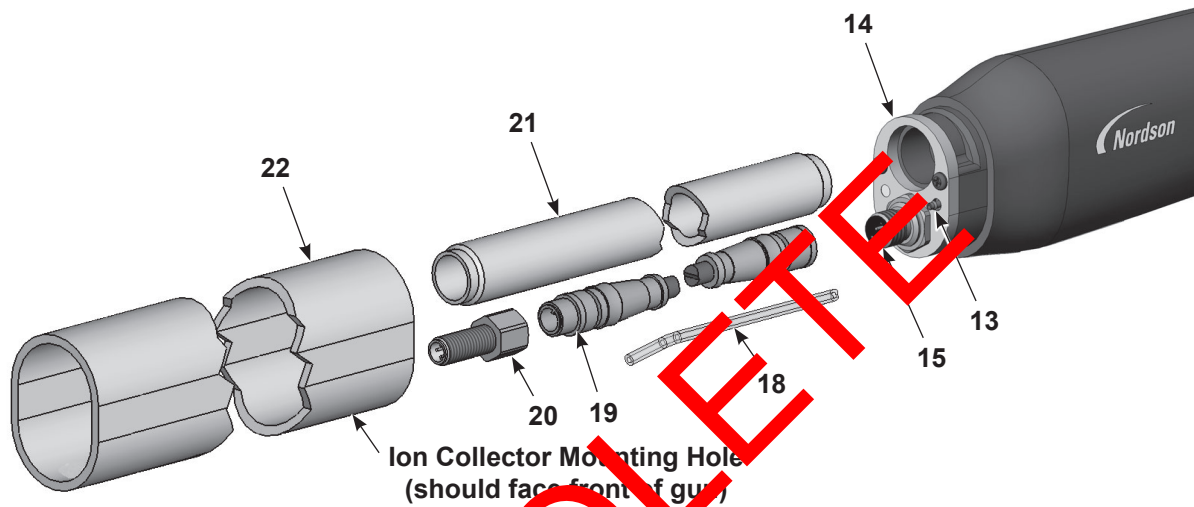
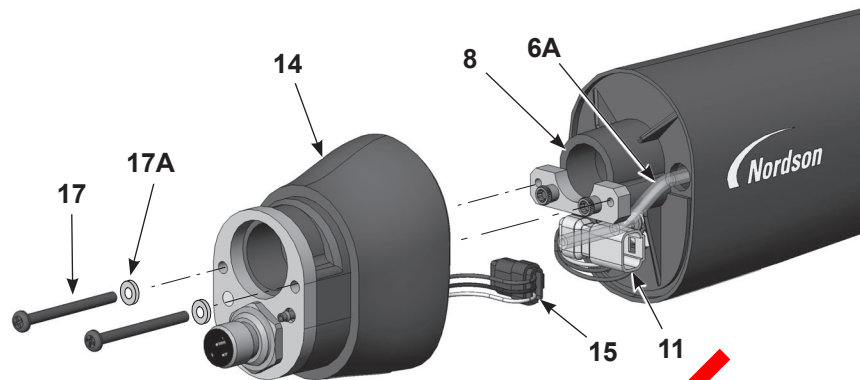
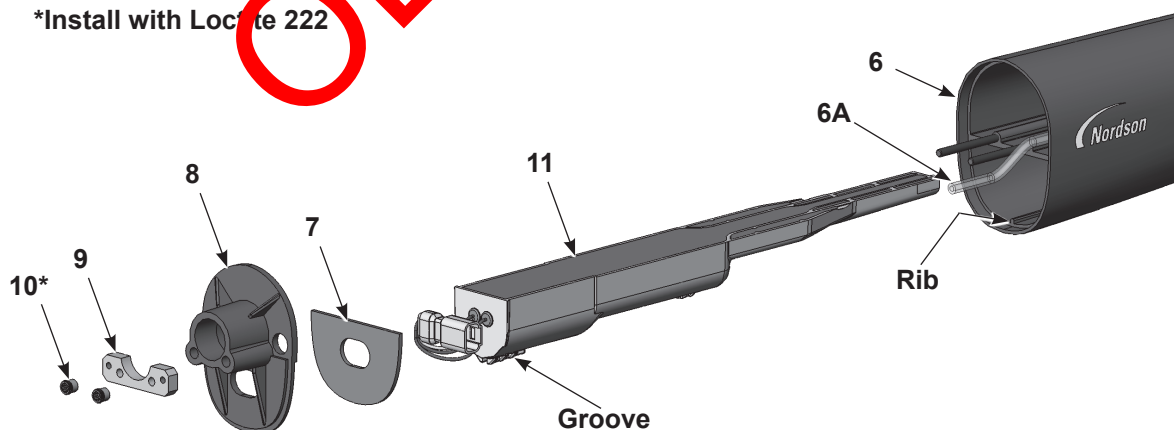

Figure 18 Tube-Mount Gun Disassembly 2 of 5
Figure 19 Tube-Mount Gun Disassembly 3 of 5
Figure 20 Tube-Mount Gun Disassembly 4 of 5
7. See Figure 18. Pull the mounting tube (22) off the rear body assembly (14) and over the clamping tube (21).
9. Disconnect the extension cable (19) from the receptacle harness (15).
10. Disconnect the clear 4-mm air tubing (18) from the barbed fitting (13).
11. If you are replacing the extension cable, remove the cable receptacle (20). If not, you can leave them connected.
12. See Figure 19. Remove the two socket-head screws (17) and lock washers (17A) from the rear gun body (14).
13. Carefully pull the rear gun body far enough off the bulkhead (8) to disconnect the power supply harness (11) from the receptacle harness (15), and the filter assembly tubing (6A) from the barbed fitting inside the rear body.
14. See Figure 20. With a 1/8-in. hex key, remove the two Allen nuts (10) and screw plate (9) from the bulkhead (8). Then remove the bulkhead from the gun body (6), feeding the power supply harness through the bulkhead.
15. Slide the power supply (11) out of the gun body.
17. The gasket (7) is attached to the bulkhead with a pressure-sensitive adhesive. If the gasket is damaged, replace it with a new one.
1. See Figure 20. Install the power supply (11) into the gun body (6), making sure the gun body rib fits into the groove on the power supply. Seat the power supply firmly into the gun body.
2. Feed the power supply harness through the bulkhead (8), then install the bulkhead and screw plate (9) over the gun body studs. Apply Loctite 222 thread-locking adhesive to the Allen nuts (10) and thread them onto the studs. Torque the nuts to 0.45 N•m (64 inch-ounces) with a 1/8-in. hex key.
3. See Figure 19. Connect the receptacle harness (15) to the power supply harness (11). Tuck the harness connectors (11, 15) into the rear body assembly in the positions shown.
4. Connect the filter assembly tubing (6A) to the barbed fitting on the inside of the rear body. Feed any extra clear air tubing into the gun body, then install the rear body onto the bulkhead with the screws (17) and lock washers (17A).
5. See Figure 18. Screw the clamping tube (21) into the rear body (14).
6. Connect the extension cable (19) to the receptacle harness in the rear body assembly.
7. Connect the clear 4-mm tubing (18) to the barbed fitting on the rear body assembly.
8. Orient the mounting tube (22) with the ion collector hole facing towards the front of the gun.